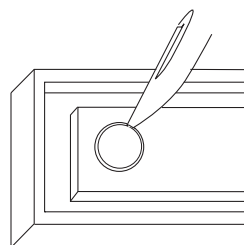

FIG. 1
1. Pry damaged PresLock from holder using sharp object (FIG. 1)